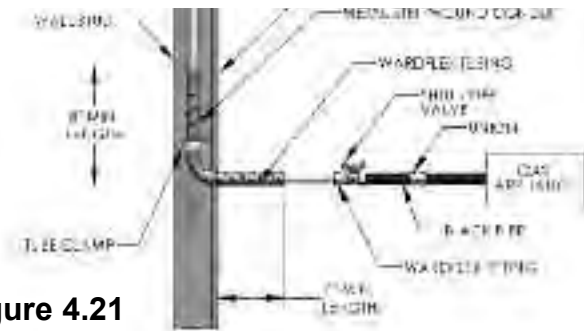

Figure 4.21
- A. WARDFLEX®/WARDFLEX® II can be directly connected to a non-moveable appliance such as a furnace or water heater (Figure 4.21) (be sure to check with local code if this is acceptable prior to installation).